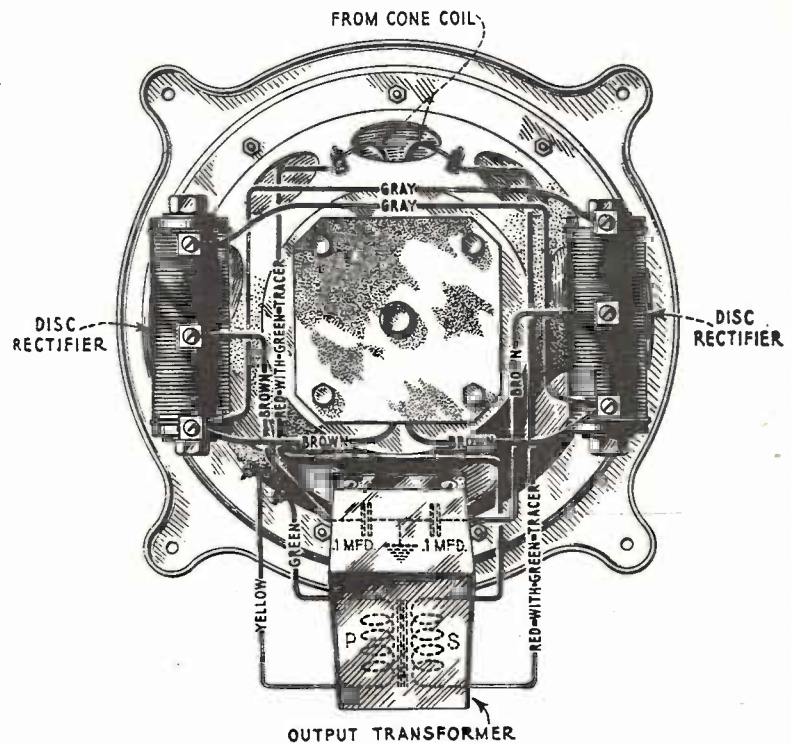

Fig. 50 - Dynamic Speaker used in the Radiola 41 A.C.
(10) Dry Rectifiers. A dynamic speaker with a 6-volt field connected to the rectified output of a trickle charger forms the basis of this type of A.C. dynamic speaker, except that the whole is assembled as one unit. The schematic diagram, Fig. 47, shows the usual connections. Fig. 50 shows the Radiola 41 A.C. speaker. Failure of field current is usually caused by the dry-disc rectifiers reaching the end of their useful life, especially if A.C. voltage is found across the secondary of the step-down transformer. Should this be the case, the rectifiers must be replaced. Excessive hum, caused by the pulsating direct current delivered to the field, may be reduced by connecting a low-voltage high-capacity condenser across the field. A condenser of 1000 to 2500 mf. rating is usually employed for this purpose. Short circuits often occur in this type of condenser, making it another source of trouble for the service man.